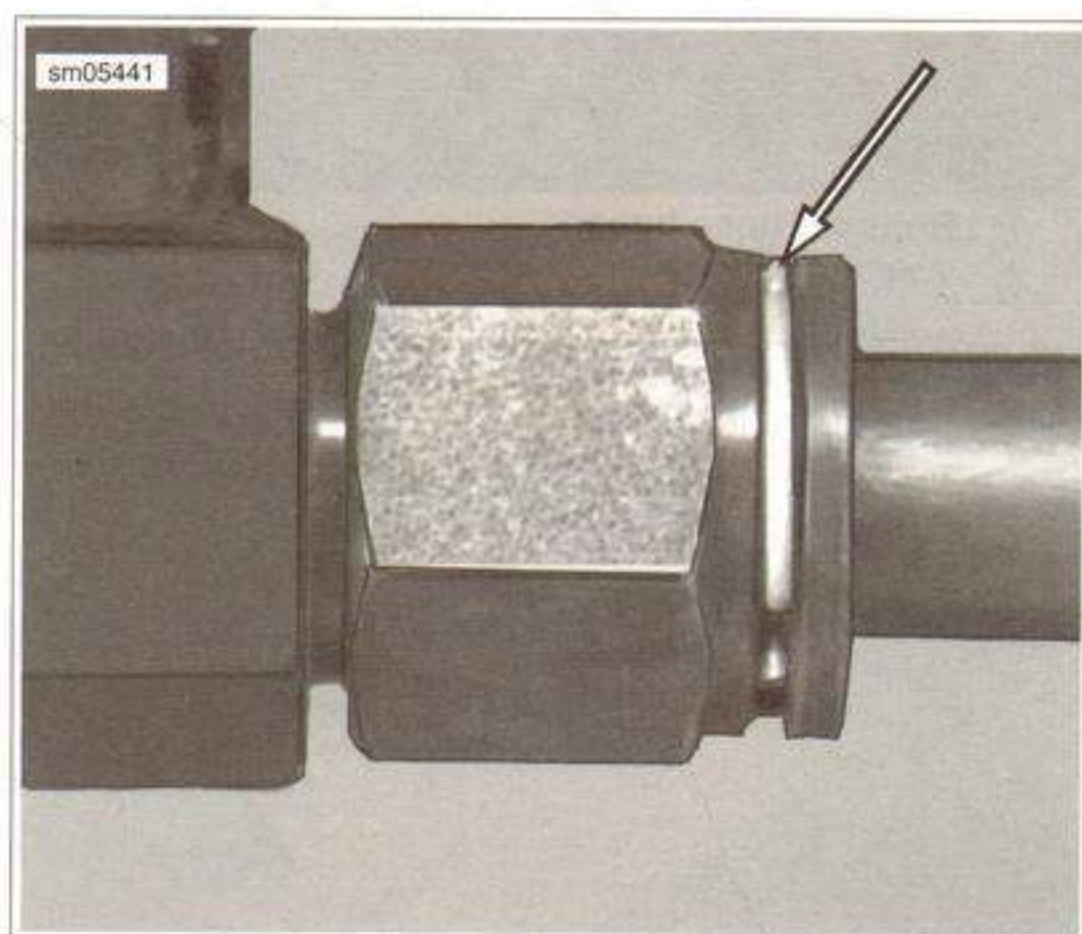

Figure 5-31. Oil Line Spring Clip
6. See Figure 5-31. Rotate the tool to expand the spring clip out of the groove in the oil fitting.